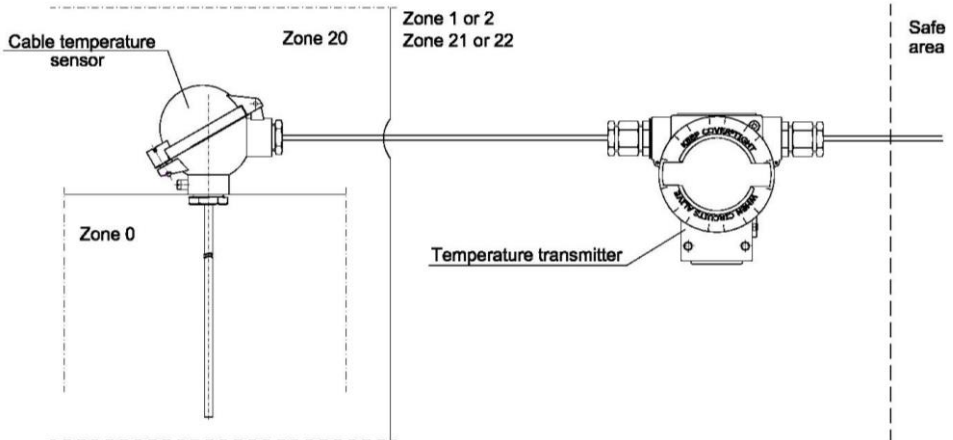

Fig. 1. LI-24ALW temperature transmitter with a cable temperature sensor.
The transmitter with the above designation may be installed in zones 1 (21) or 2 (22), while cable temperature sensor may be installed in zone 0 (20) (Fig.1).